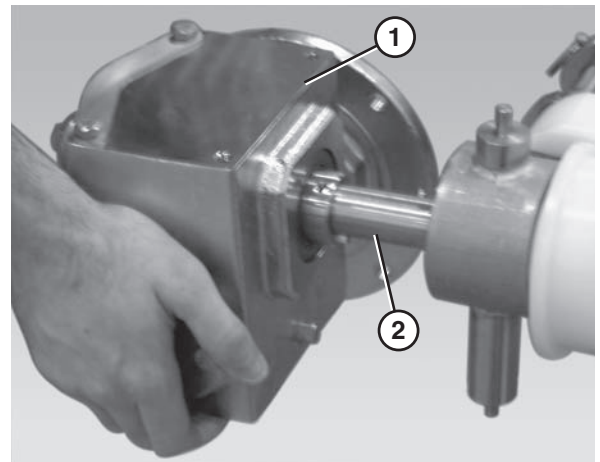

**Figure 31**
5. Unbolt the gear reducer mounting bars / posts (**Figure 31, item 1**) from the gear reducer (**Figure 31, item 2**) (horizontal drive shown in figure).